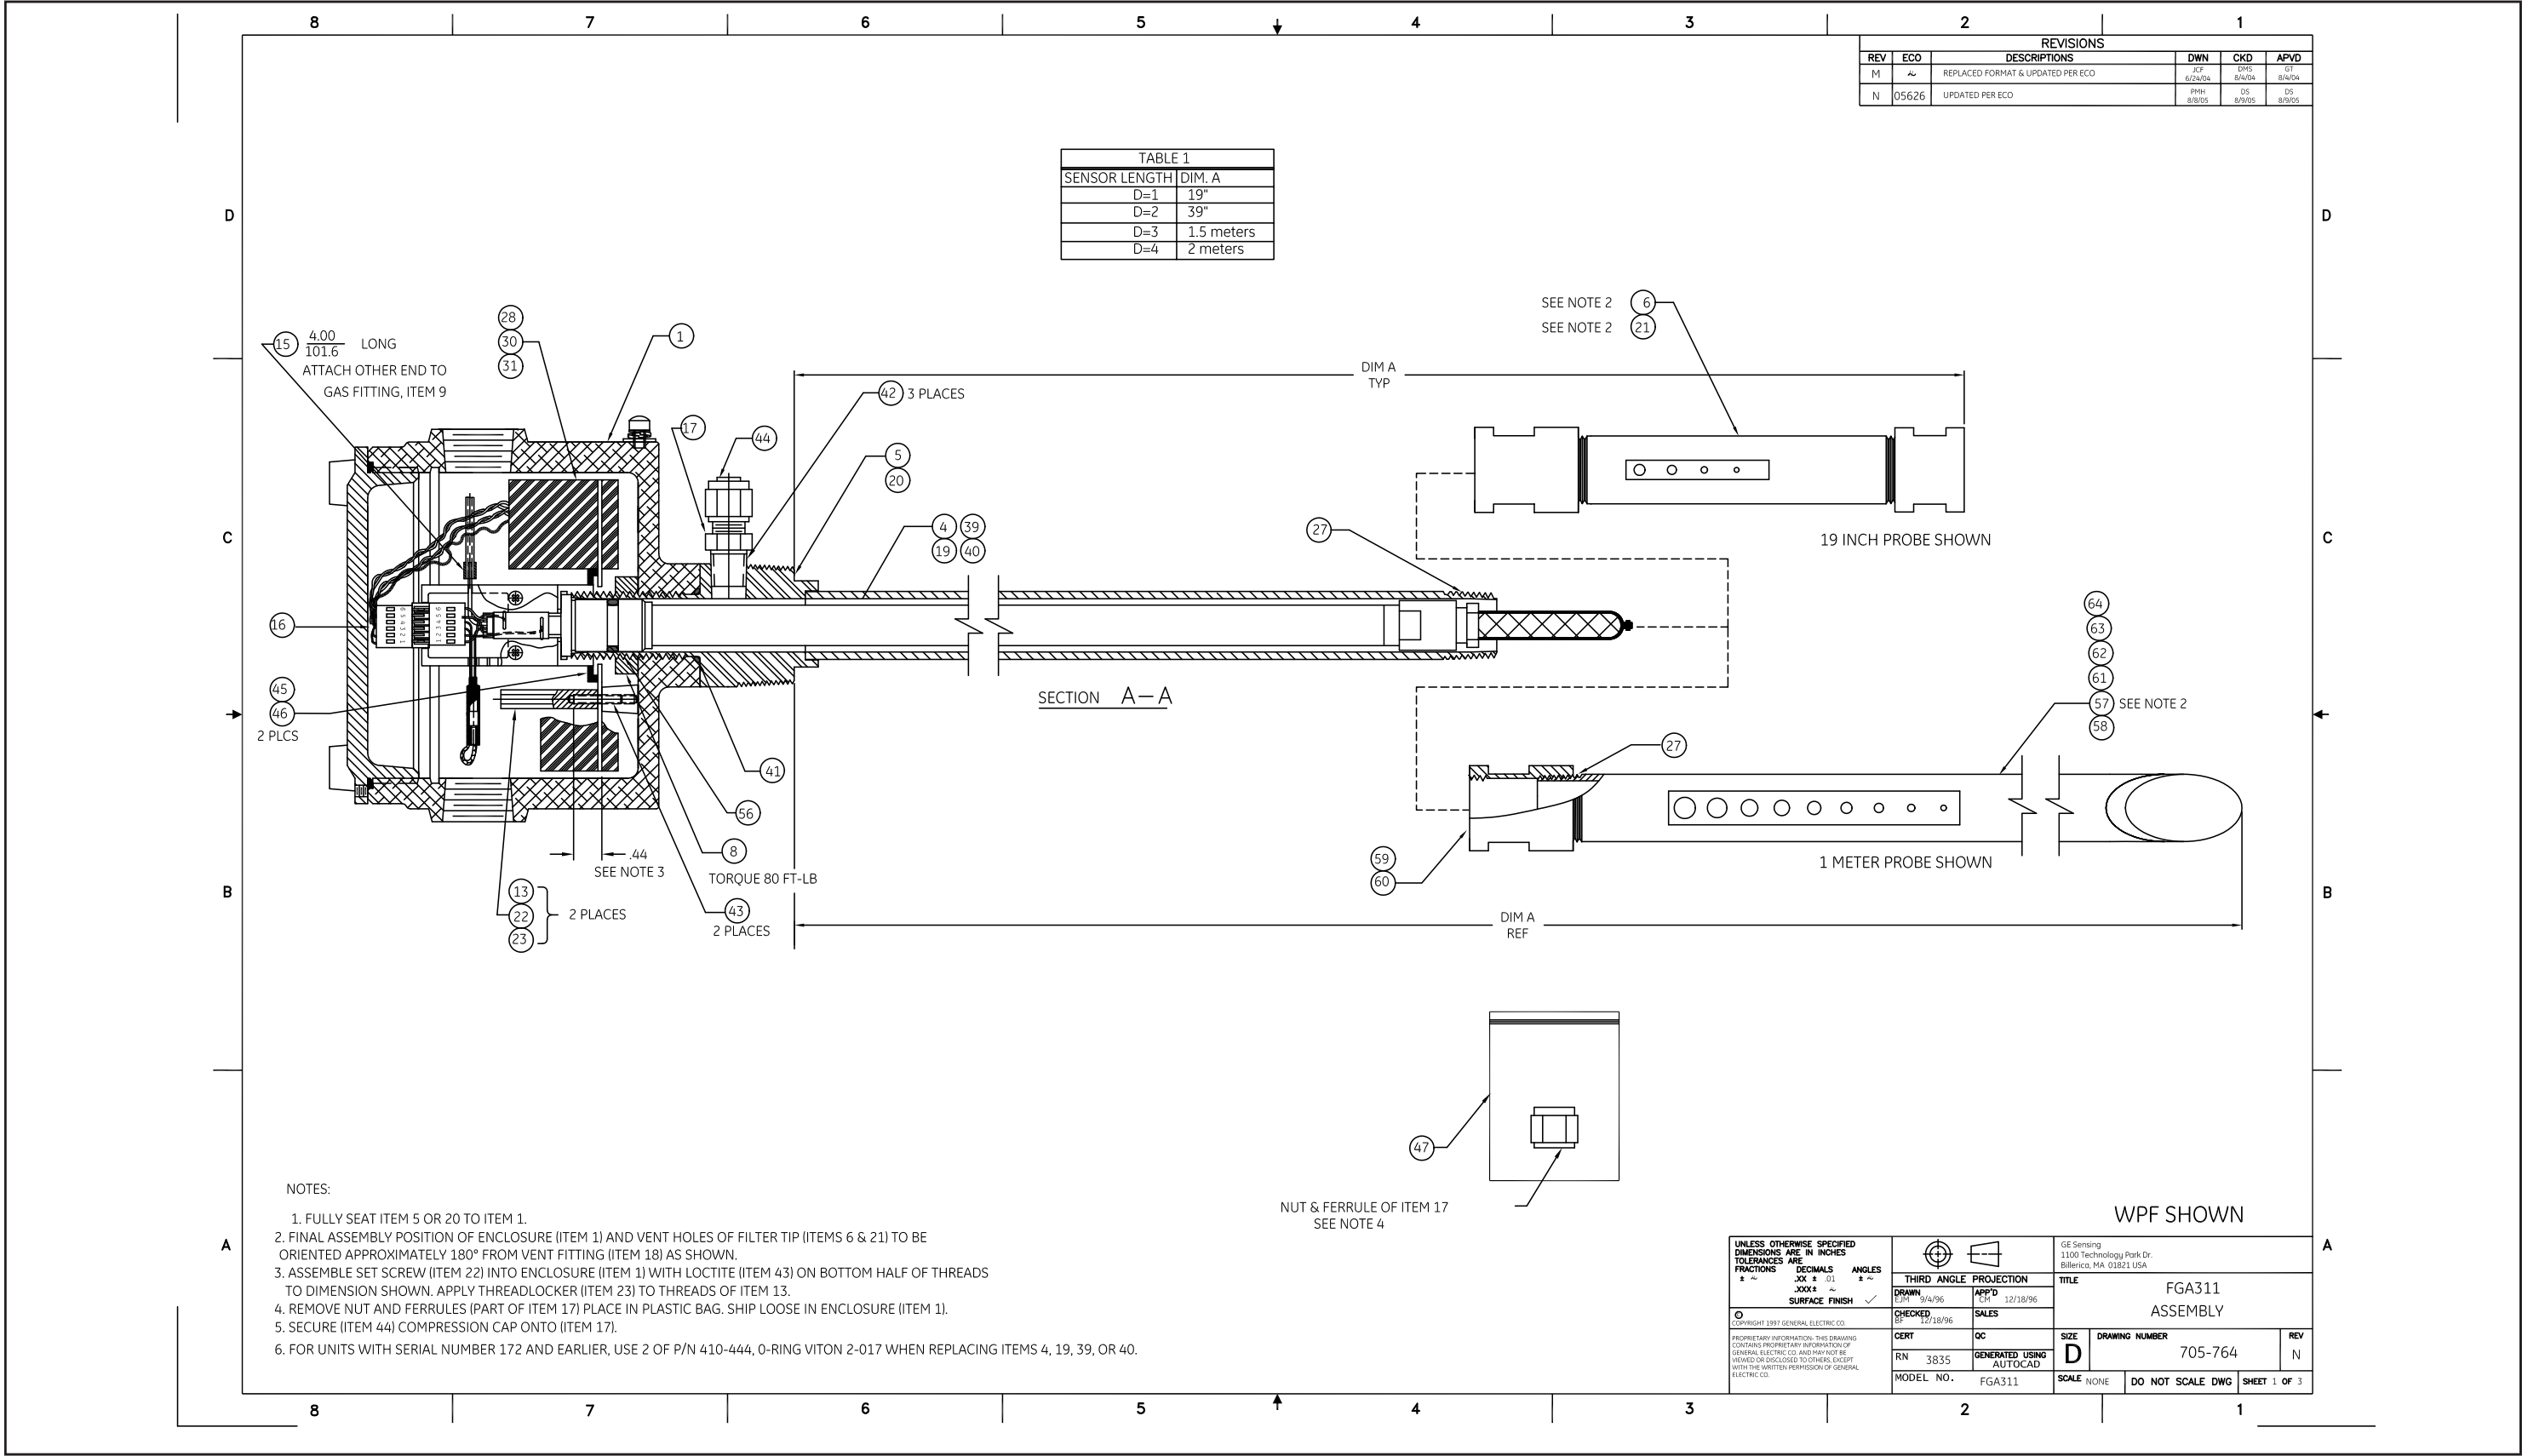

Figure 18: FGA 311 Weatherproof Assembly (Drawing 705-764_rev N, Sheet 1)
- Figure 18: FGA 311 Weatherproof Assembly (Drawing 705-764_rev N, Sheet 1) ----- 73